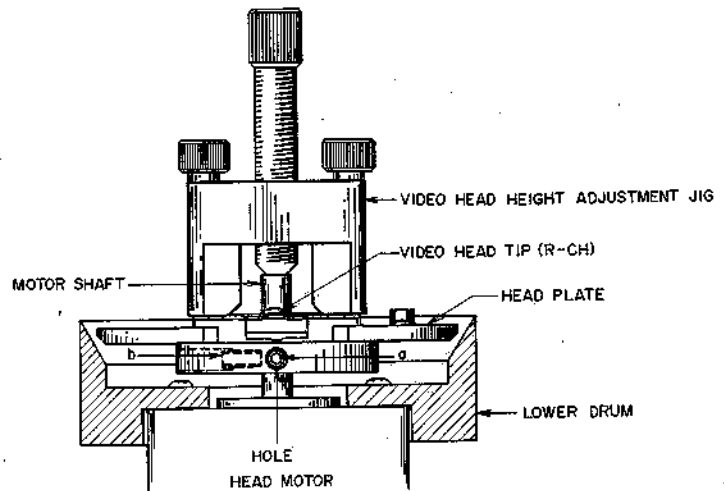

Fig. 4-18
- b) Mount the head plate on the motor shaft as shown in Fig. 4-18.
- e) Tighten the 1.5 mm hexagon screw (a) in Fig. 4-18.